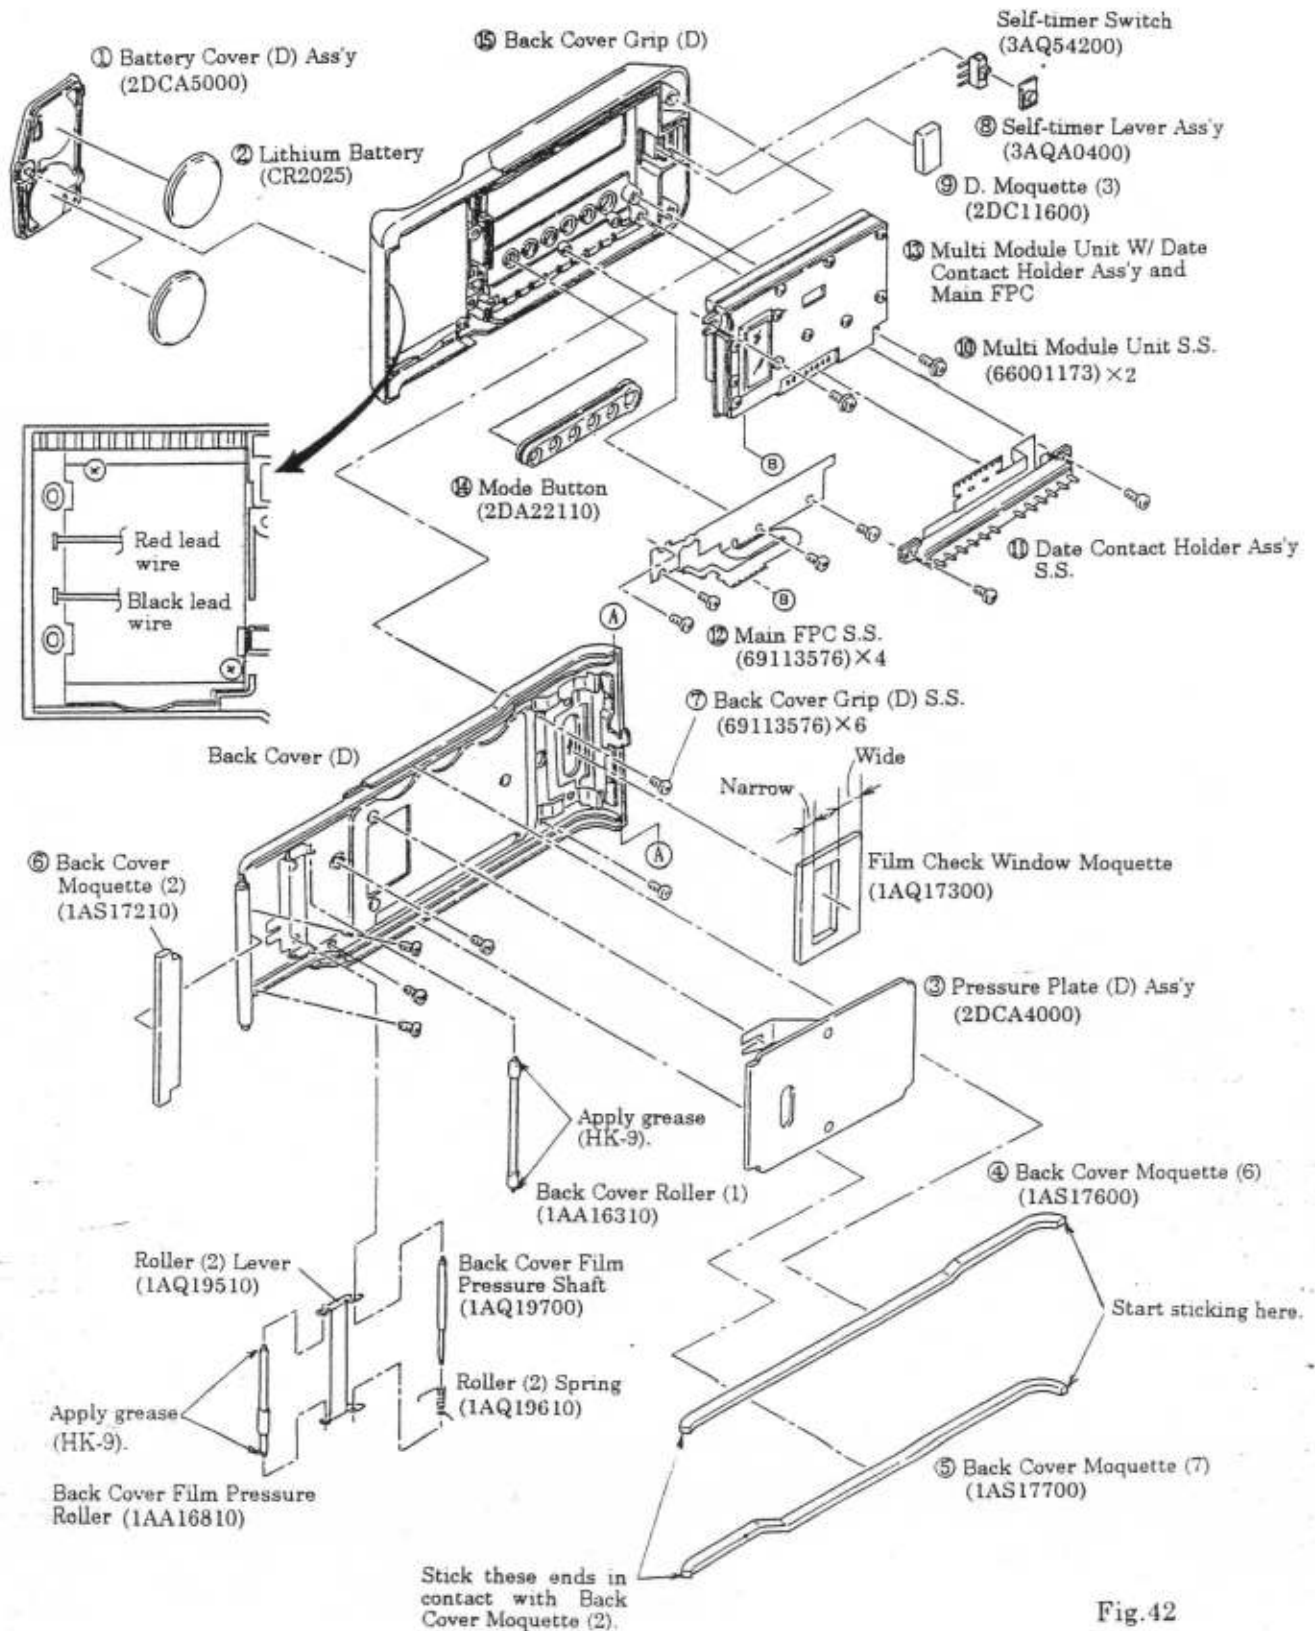

Fig.42
- 1) Remove parts in the numerical order of ① to ⑨ shown in Fig. 42.
- 3) Remove parts in the numerical order of ⑩ to ⑮ shown in Fig. 42.
- a) Apply Grease (HK-9) to both ends of each of the Back Cover Film Pressure Roller (1AA16810) and Back Cover Roller (1) (1AA16300). (See Fig. 42)
Immediately after applying the bond, attach the Back Cover Moquette (7) (1AS17700) and Back Cover Moquette (6) (1AS17600), starting at ① end of the Back Cover (D). Ensure that the other ends of the Back Cover Moquette (7) and Back Cover Moquette (6) are in contact with the Back Cover Moquette (2). (See Fig. 42)
- d) Stick the Film Check Window Moquette (1AQ17300) in the position as shown in Fig. 42.
(See Fig. 42)